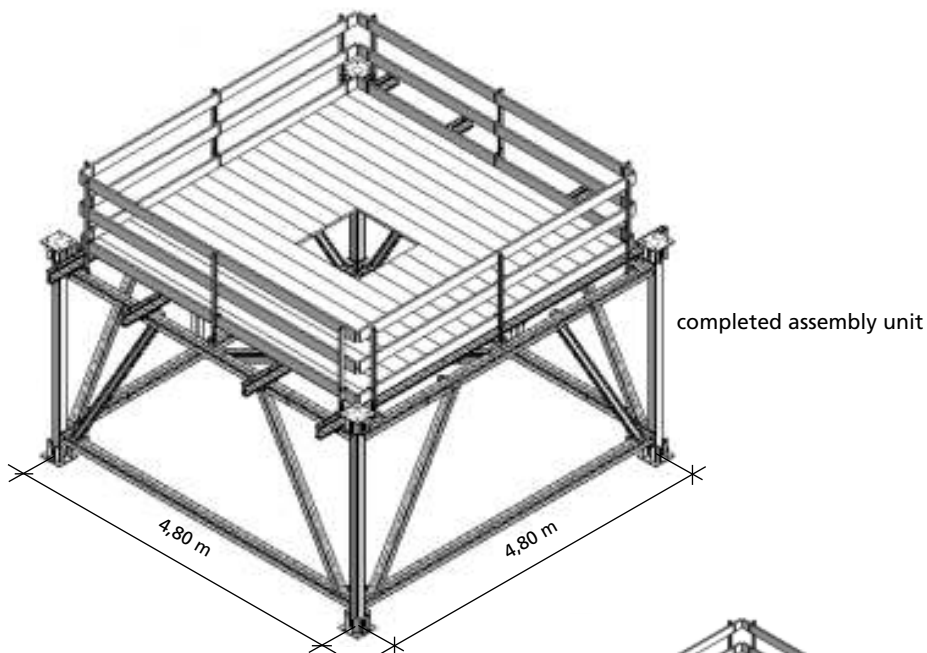

Fig. 9.1
11. Application and bolting of the planks (please keep in mind the aperture for the column with formwork and for the access ladder) and mounting of the guard-railing (Fig. 9.1).